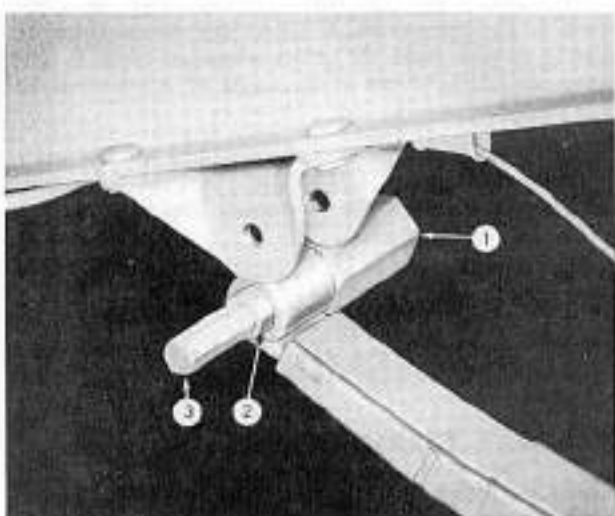

FIG. 423
Remove the spring bushing bolt and pull the end of the spring out of the hanger. Assemble the tool in the bushing (see Fig. 423) with the hollow portion of the nut adjacent to the spring eye. Then by turning the nut (1), the step washer (2) bearing against the outer sleeve of the bushing, will force the bushing out of the spring eye and into the hollow of the nut. Remove the tool from the bushing.